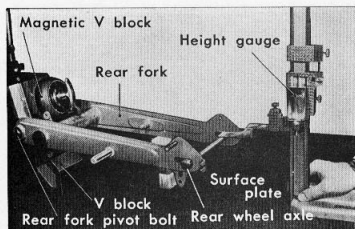

Figure 4-42. Measuring twist in rear fork
- (3) Check the rear fork for twist and deformation. If twist is over 1 mm (0.040 in) or the part is defective, replace with a new part. (Fig. 4-42)